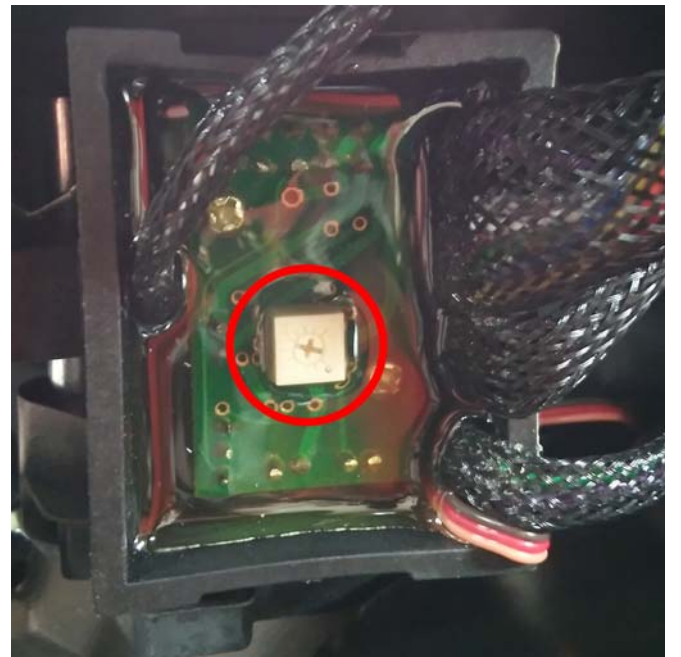

Figure 155
**NOTICE:** Before performing diagnostic tasks, be aware of the screw on the bottom of the throttle body that adjusts the servo offset. The servo offset calibrates the throttle body at the factory using a flow bench and should NEVER be touched. If it is tampered with, the engine will run poorly and void the warranty. See Figure 155.